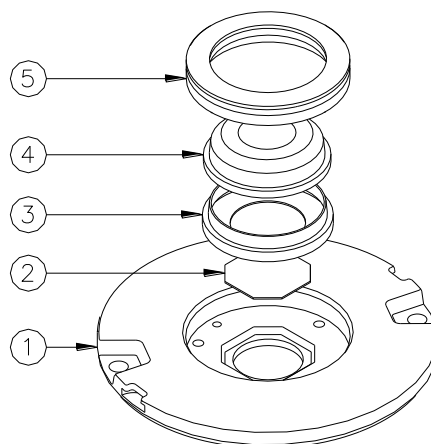

Figure 24 - Lens Replacement
- remove the old lens and the gasket (Figure 24 – n°3-4), carefully clean the lens seat by scraping and taking care not to damage the relevant walls.
- place a new gasket (Figure 24 – n°3) around the lens